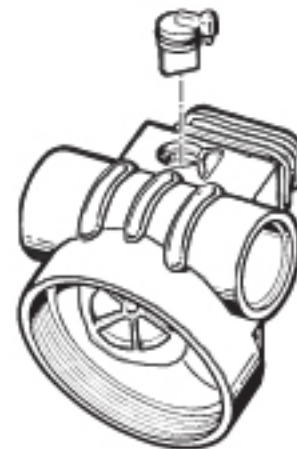

Figure 33 - Anti-venturi vane installation
1. Install the O-ring (28) into the second stage fitting of the IP hose, and set the first stage / cylinder assembly aside.
2. Install the O-ring (21) onto the anti-venturi vane (20).
3. Mate the stem of the anti-venturi vane into its respective hole in the box bottom (22) above the mouthpiece boss, and align the indicator pin in its locked position. When the vane is correctly aligned, press it down and into place so that it is properly seated inside the box bottom (see Figure 33).